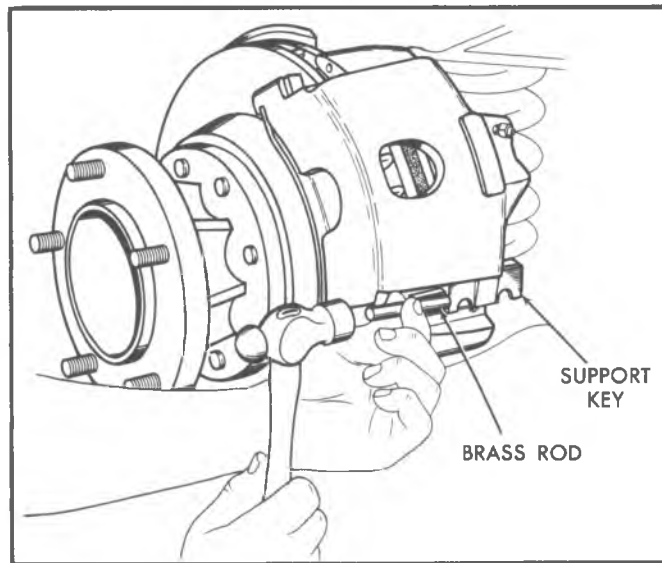

Fig. 101--Removing the Caliper Support Key
4. Remove the bolt at the caliper support key. Using a brass punch, remove the key and spring (fig. 101).